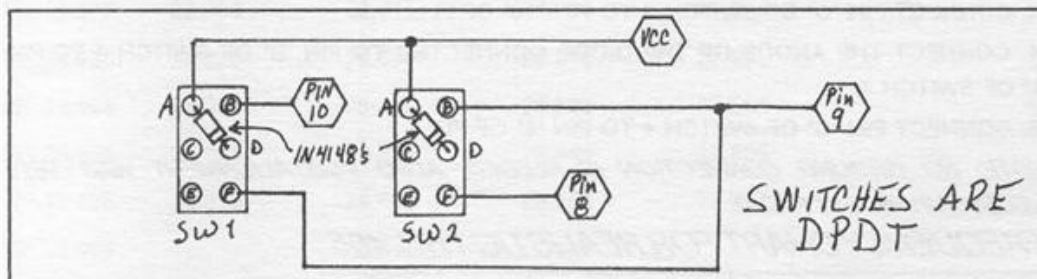

FIGURE 1. TRC-455
1. REFER TO FIGURES 1 & 3. PREPARE YOUR SWITCHES AS FOLLOWS; SOLDER A 1N4148 DIODE FROM PINS 'A' TO 'D' ON BOTH DPDT SWITCHES, CATHODES TO PIN 'D'. SOLDER A 1N4148 DIODE TO SWITCH '4', PIN 'B', CATHODE TO PIN 'B'.